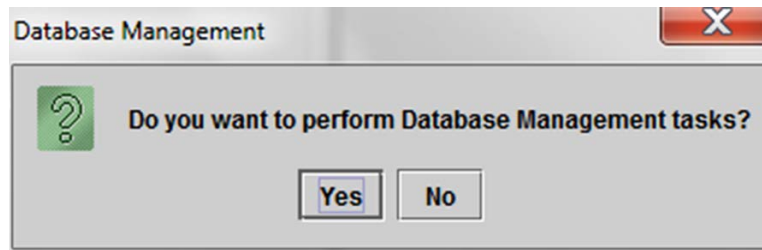
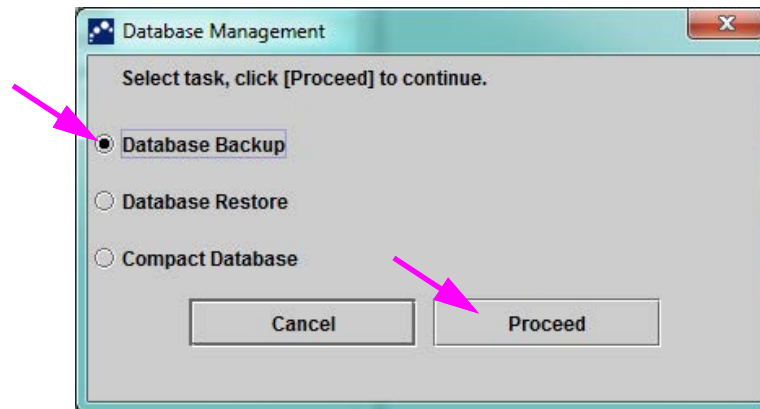

Figure 5-67. Database Management Dialog Box
Figure 5-68. Database Management Window
The GeneXpert Dx system administrator specifies whether you have permission for the data management tasks. See Section 2.13, Defining Users and Permissions. See the GeneXpert Dx system administrator to adjust the permissions to meet your requirements. If **Database Management Reminders** are enabled, the user is prompted on startup whether to perform database management. The prompt appears only if the user has privileges to perform these tasks. If the user does not have any of these privileges or if **Database Management Reminders** are disabled, the prompt will not be displayed. See Figure 5-67.
8. **If you do not want to perform database management tasks**, click **No** in the Database Management dialog box (see Figure 5-67).and skip to Section 5.2.3.2, Archive Overdue Reminder.
If you want to perform database management tasks, click **Yes** in the Database Management dialog box (see Figure 5-67). The Database Management window appears. See Figure 5-68.
1. Select **Database Backup** on the Database Management window (see Figure 5-68).